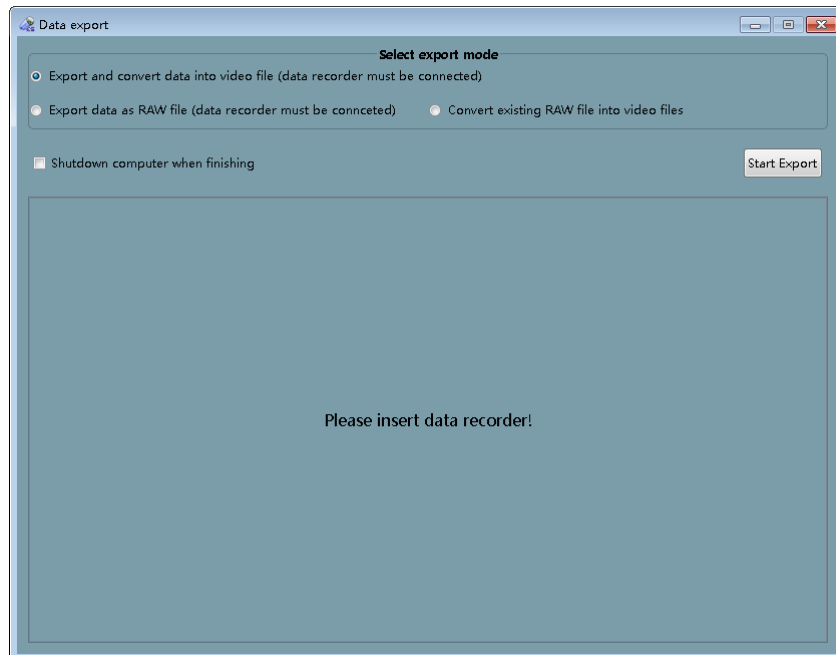

Figure 4-7: Data Recorder Not Connected Alert
5. The data recorder should be connected to the computer via USB when exporting data, otherwise, an alert will appear on the data export interface to remind the user to connect the data recorder to the computer (Figure 4-7).